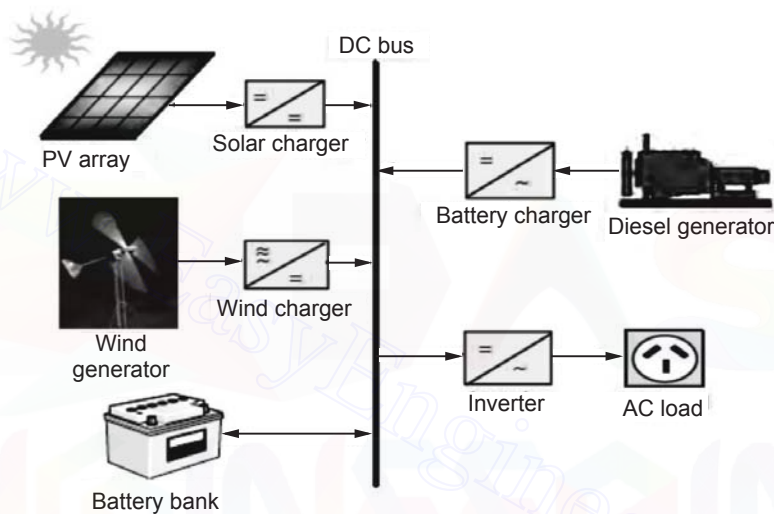

Fig. 5.13.1 Series hybrid energy system
- In the conventional series hybrid systems shown in Fig. 5.13.1, all power generators feed DC power into a battery.